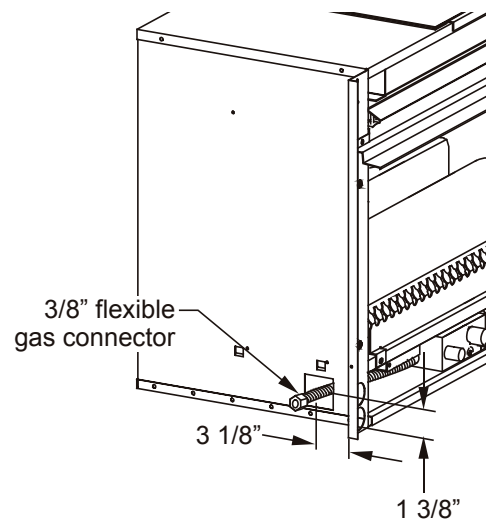

Figure 3. Gas line location.
The gas line must be installed before finishing the Hotshot DHS insert. For ease of installation, this appliance is equipped with an approved flexible gas connector. The connector is factory-installed and can be connected to the gas line as shown in **figure 3**.
- Centre the Hotshot in the fireplace opening, and connect the gas line. (See **Figure 3.**)